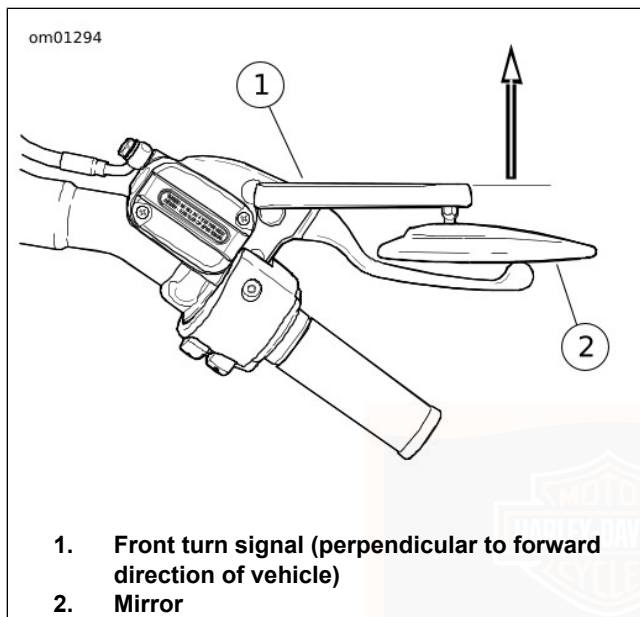
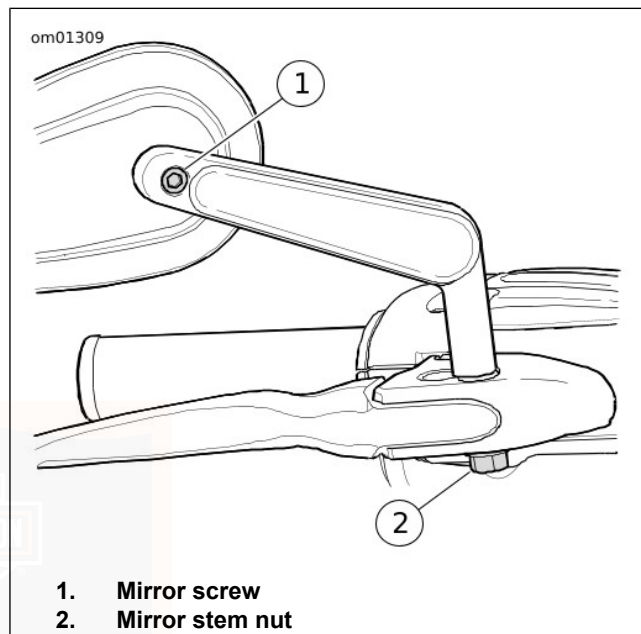

Figure 16. Mirror/Turn Signal Alignment: VRSCF Model
Figure 17. Mirror/Turn Signal Fasteners: VRSCF Model
See Figure 16. On the VRSCF model, the mirror stems operate as front turn signals. Use the following procedure to properly align the front turn signals and position the rear view mirrors.
See Figure 17. Always loosen fasteners before changing the position of the turn signals or mirrors. Simply pushing the mirror face or stem may cause damage to the assembly.
1. See Figure 17. Loosen the nut on the mirror stem. Adjust the front turn signal so it is directed straight ahead, with the lighted surface facing the forward direction of the vehicle as shown in Figure 16.